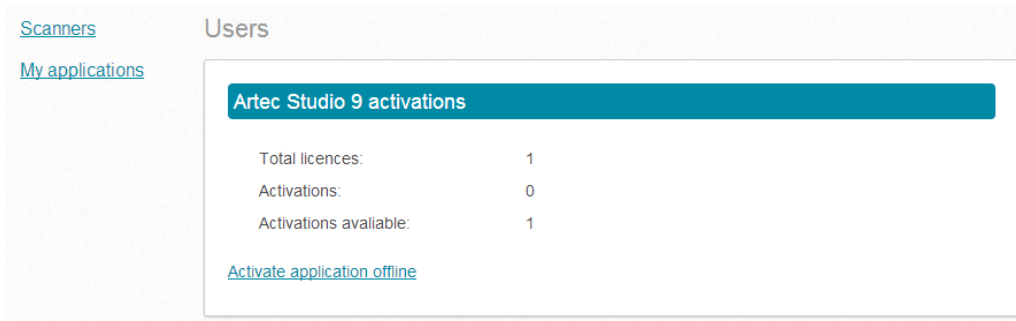

Figure 1.10: Offline activation at my.artec3d.com
5. Find *Artec Studio* product and click on it. A new page will appear as shown on the figure 1.10.